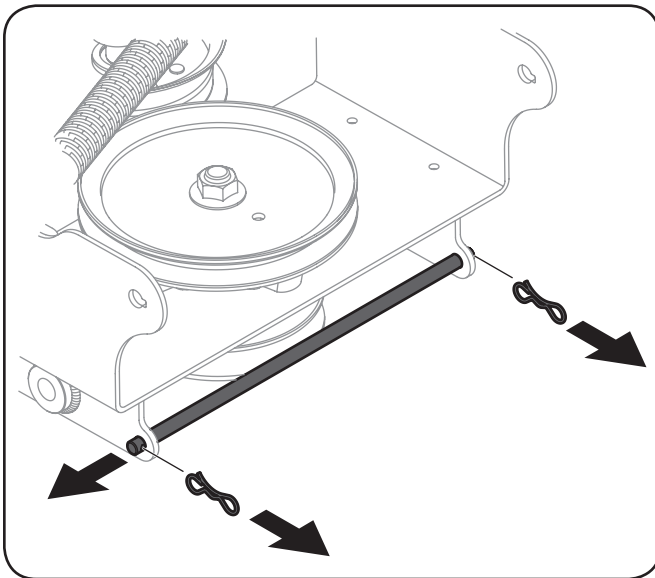

Figure 3-7
2. Remove the rod from the rear of the carriage assembly. Retain the clips and rod, as they will be reattached in later steps. See Figure 3-7.